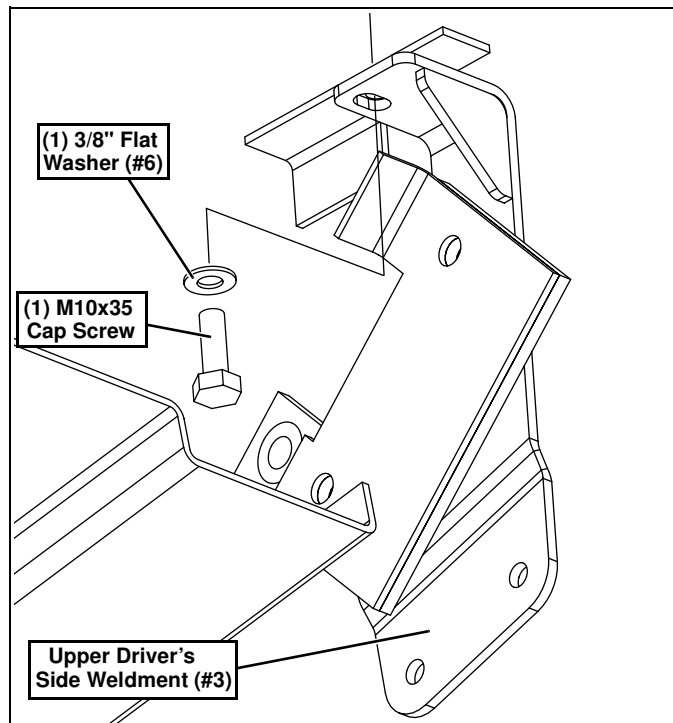

Figure 5
- Align the holes in the side of the Upper Driver's Side Weldment (#3) with the holes in the brush guard. The top hole in the Upper Driver's Side Weldment (#3) should align with the upper front hole where the M10x35 Cap Screw was removed. (See Figure 5.)
- Place (1) 3/8" Flat Washer (#6) over the slot in the Upper Driver's Side Weldment (#3). Insert the original M10x35 Cap Screw removed in step 7 thru the 3/8" Flat Washer (#6), Upper Driver's Side Weldment (#3) and into the frame. (See Figure 5.)
13. Align the holes in the side of the Upper Driver's Side Weldment (#3) with the holes in the brush guard. The top hole in the Upper Driver's Side Weldment (#3) should align with the upper front hole where the M10x35 Cap Screw was removed. (See Figure 5.)
14. Place (1) 3/8" Flat Washer (#6) over the slot in the Upper Driver's Side Weldment (#3). Insert the original M10x35 Cap Screw removed in step 7 thru the 3/8" Flat Washer (#6), Upper Driver's Side Weldment (#3) and into the frame. (See Figure 5.)